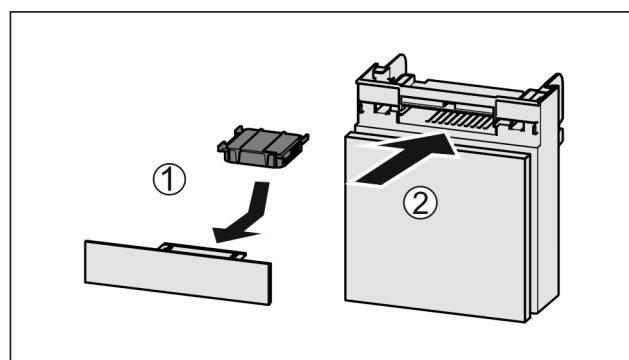

Fig. 153
- ▶ Insert the carbon filter as shown in the diagram Fig. 153 (1).
- ▶ Push the compartment in Fig. 153 (2).